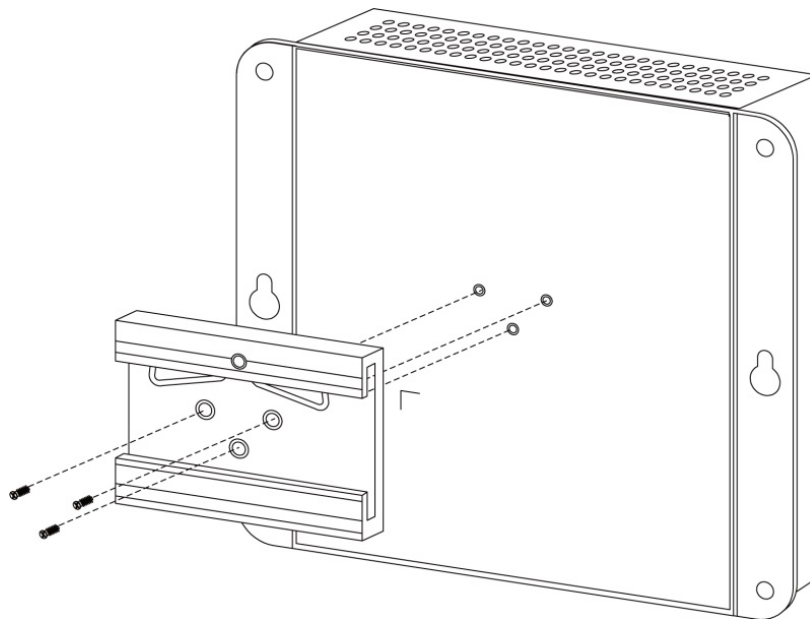

Figure 2-15: DIN-rail bracket is attached to router
Step 1: Screw the DIN-rail bracket on the Industrial Router as shown in Figure 2-15.